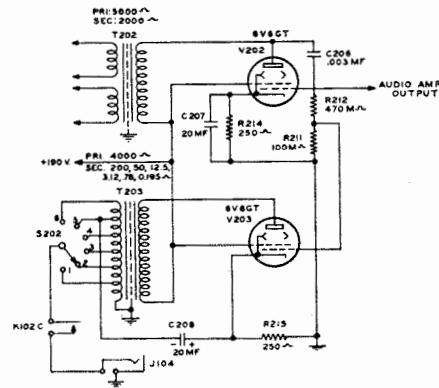

Fig. 18 Sidetone Amplifier Circuit
2.7.4.1. A sidetone amplifier, Figure 18, is incorporated in the same unit as the two stage speech amplifier. The amplifier employs a Type 6V6GT beam pentode tube V203. The output of the audio driver V202 in addi-